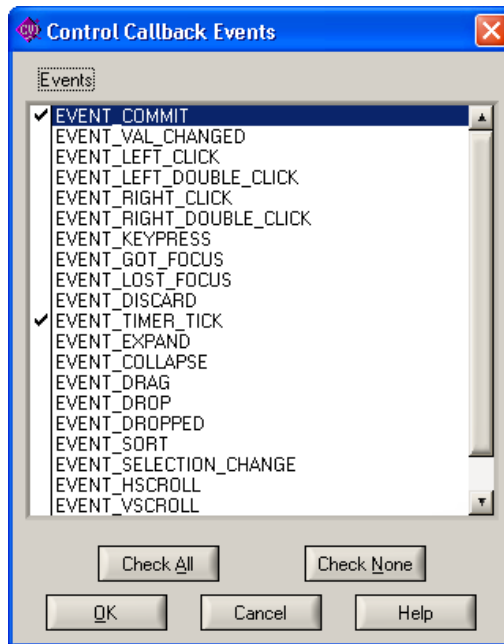

Figure 5-3. Control Callback Events Dialog Box
1. Before you use CodeBuilder, you must specify the events to which your program must respond. Select **Code»Preferences»Default Control Events**. In the Control Callback Events dialog box, shown in Figure 5-3, there is a checkmark beside the `EVENT_COMMIT` callback event and a checkmark beside the `EVENT_TIMER_TICK` callback event.